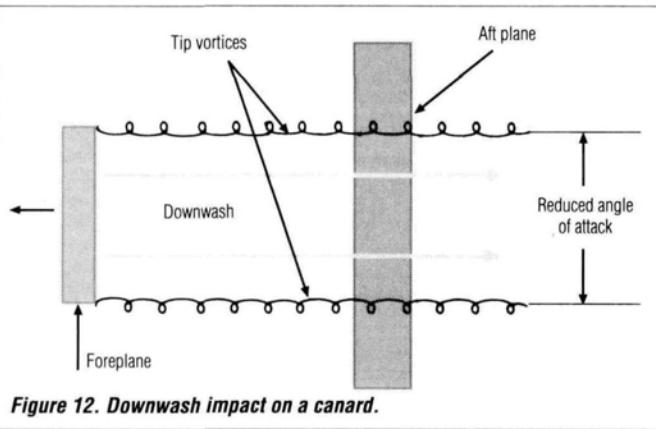

Figure 12. Downwash impact on a canard.
• **Canards:** foreplane downwash impacts on a portion of the aft wing (equal in span to that of the foreplane), reducing the angle of attack and lift in the downwashed area (Figure 12).
- **Three-surface models:** the main plane is affected as in the canard (Figure 12); and the horizontal tail is affected by the downwash from that portion of the main wing that's "shadowed" by the foreplane downwash. The reduced angle of attack of the "shadowed" portion of the main wing may be compensated for as follows: